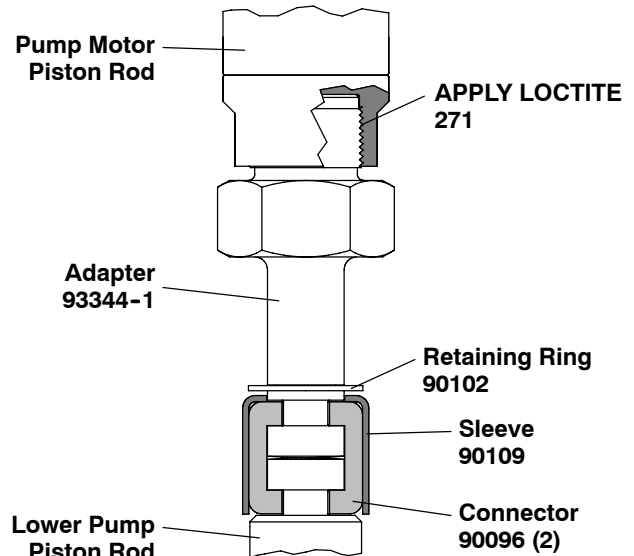

FIGURE 2
- Using e-ring pliers, slide the retaining ring up far enough to allow the sleeve to move upward and release the two connectors (see figure 2).